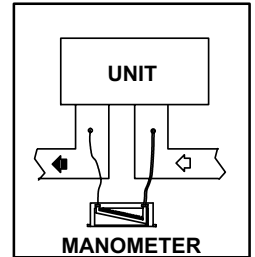

FIGURE 27
- a- Locate taps as shown in figure 27.